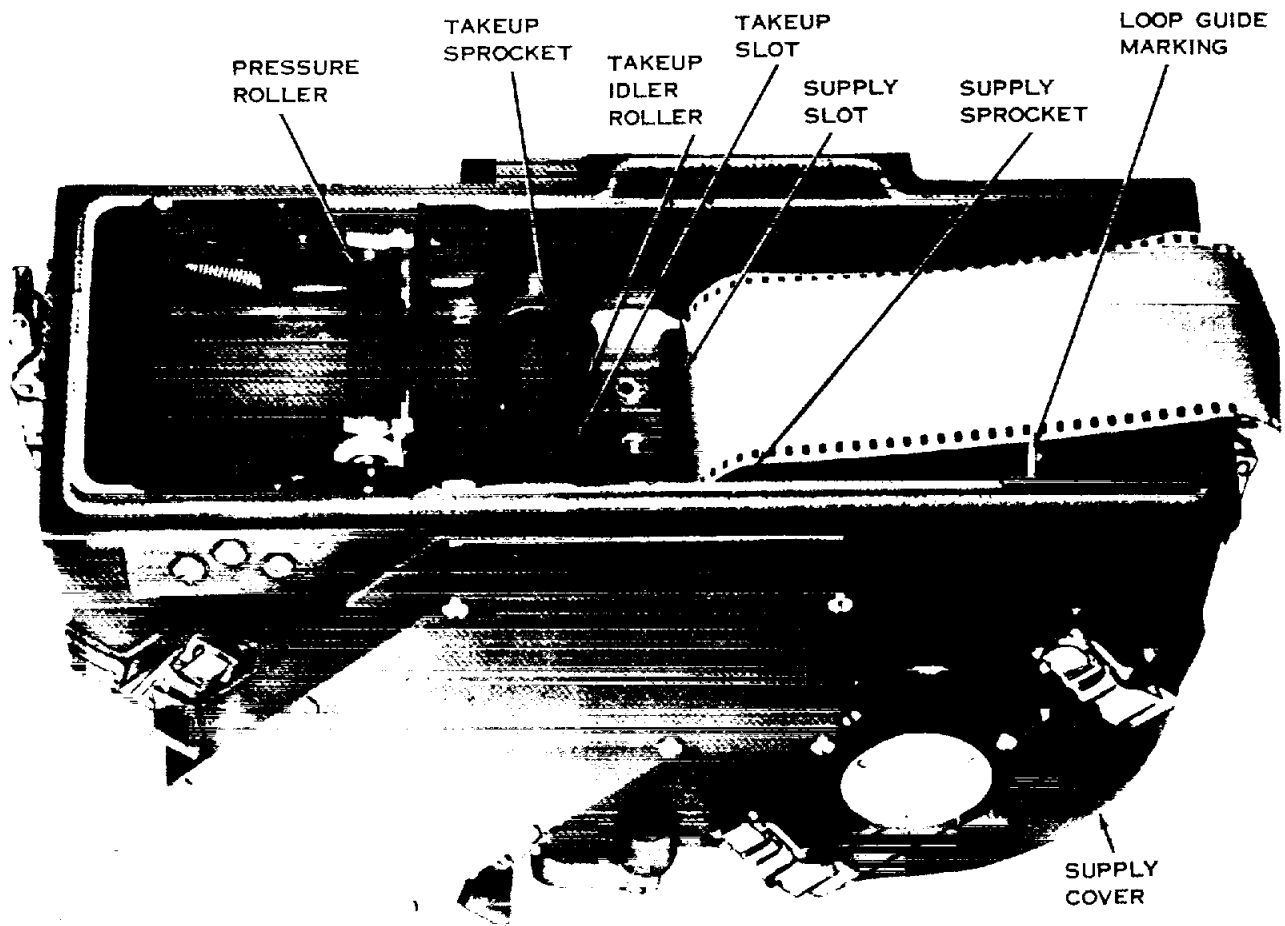

Figure 15. Routing of Film, Subdued Light Procedures (2).
c. Feed the film leading edge over and around the pressure roller, then over the takeup sprocket and into the takeup slot. Insure that the film is routed over the takeup idler roller smoothly (fig. 15).